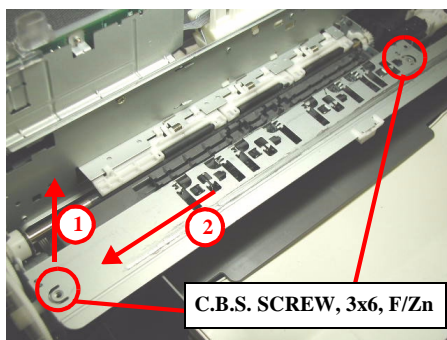

Figure 4-47. Front frame removal
- Fasten two screws (C.B.S. SCREW 3x6 F/Zn) for securing the Front frame to the Main frame (Refer to Figure 4-47)